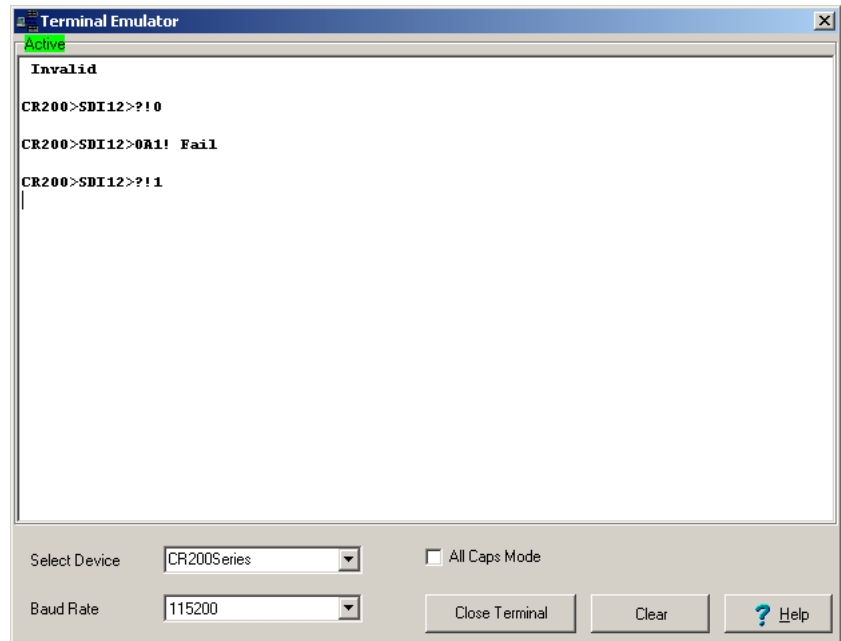

FIGURE 8-1. SDI-12 Transparent Mode for a CR200(X) used to change the SDI-12 address from 0 to 1
- Press the **Enter** key until the datalogger responds with the "CR200(X)>" prompt (FIGURE 8-1).